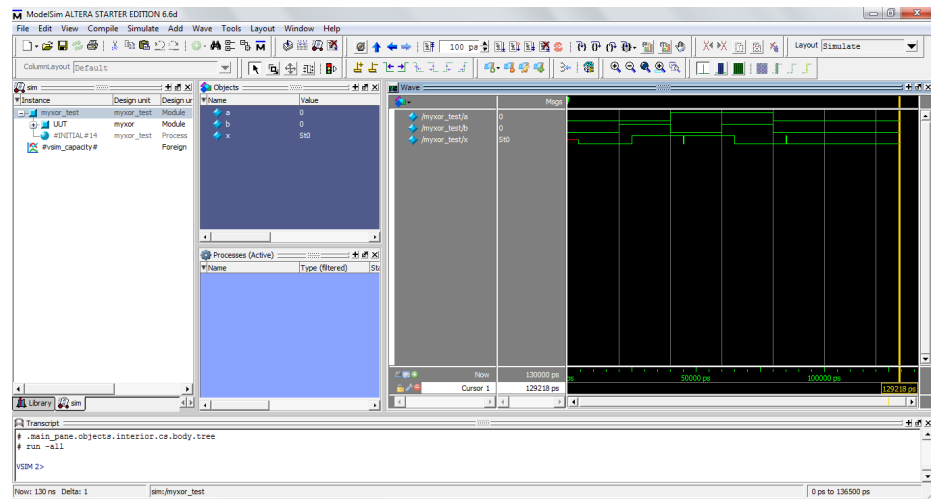

Figure 3. ModelSim-Altera window once simulation has completed.
2. Wait for the simulation window to appear (Figure 3). You will see green lines on the right hand side when it is finished. This is the *waveform*, which plots the input and output values of the circuit over time. If the waves do not show up, make sure you have the Wave window shown (check *View* → *Wave*), and that there are no errors in the Transcript window (at bottom).